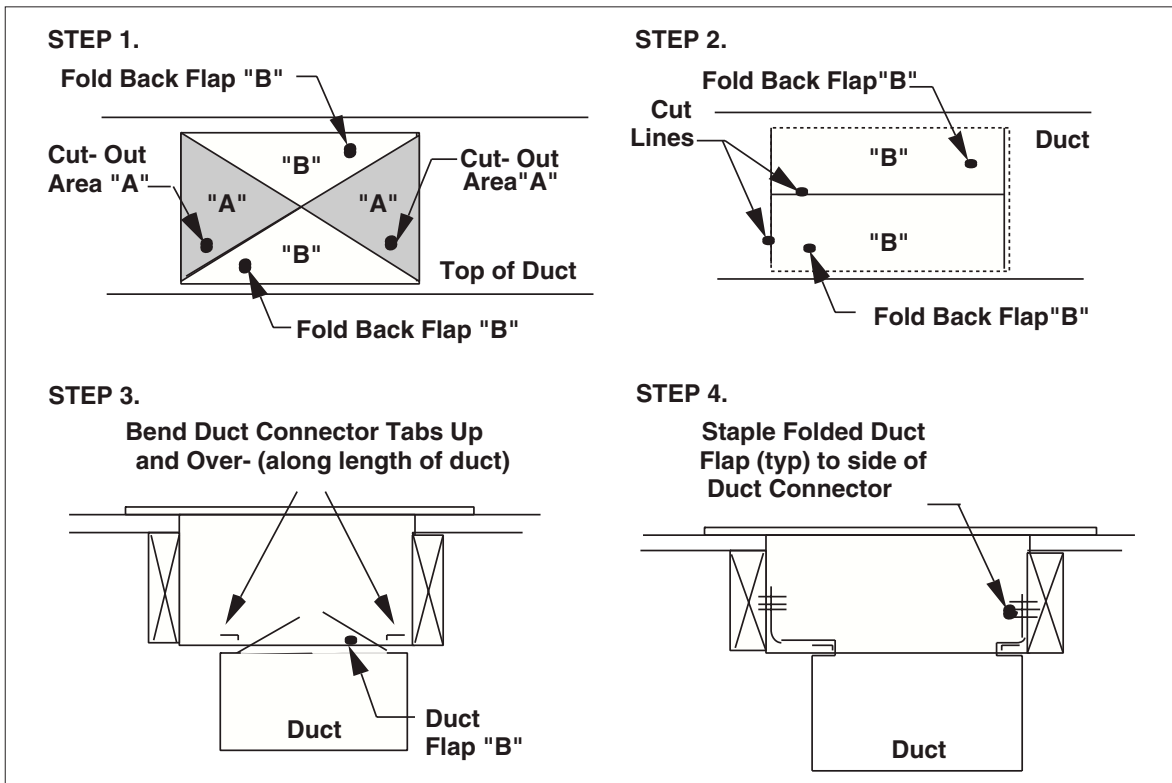

Figure 12. Alternate Duct Connector Installation D
1. Score and cut top of metal duct as indicated in Figure 12, Step 1 or Step 2. If using Step 1, also cut out metal from the shaded area "A".
2. Fold the duct flap "B" up (see Figure 12, Step 3).
3. At the front-to-back of duct run (see Figure 12, area "A"), bend the duct connector tabs and secure them directly to the duct.
4. At area "B", bend the duct connector tabs up and back over, around the duct connector (see Figure 12, step 3).
5. Fold/form the duct flap against the side of the duct connector and attach as shown (see Figure 12, Step 4). Use at least three staples on each duct flap OR... if a 2X block/